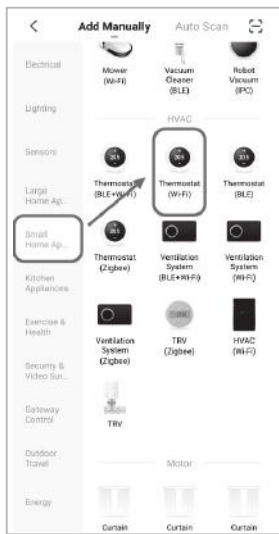

Fig.4
- When the thermostat is off, press and hold the “∇” until the thermostat screen flashes quickly and displays the “📶” icon, and then operate according to the following figures (Fig. 4-Fig. 8)